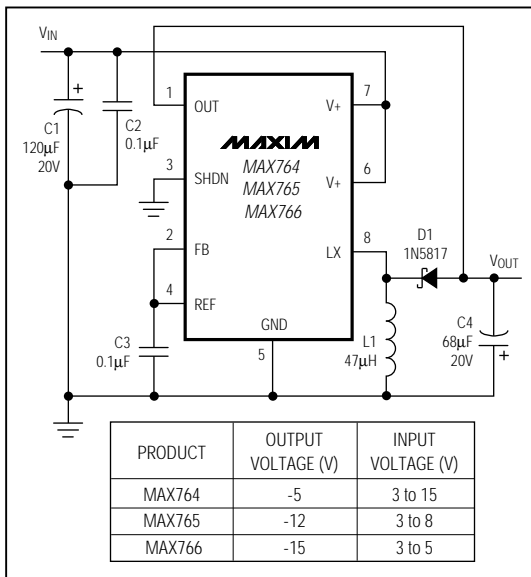

Figure 2. Fixed Output Voltage Operation
**Note 2:** Circuit of Figure 2.
CIRCUIT OF FIGURE 2, V+ = 5V, ILOAD = 100mA, VOUT = -5V
CIRCUIT OF FIGURE 2, V+ = 5V, VOUT = -5V
CIRCUIT OF FIGURE 2, VOUT = -5V, ILOAD = 100mA
CIRCUIT OF FIGURE 2, V+ = 5V, VOUT = -5V, ILOAD = 140mA
CIRCUIT OF FIGURE 2,  $V_+ = 5V$ ,  $V_{OUT} = -5V$ ,  $I_{LOAD} = 80mA$
CIRCUIT OF FIGURE 2,  $V_+ = 5V$ ,  $V_{OUT} = -5V$ ,  $I_{LOAD} = 240mA$
Figures 2 and 3 show the standard application circuits for these devices. In these configurations, the IC is powered from the total differential voltage between the input ( $V_+$ ) and output ( $V_{OUT}$ ). The principal benefit of this arrangement is that it applies the largest available signal to the gate of the internal P-channel power MOSFET. This increased gate drive lowers switch on-resistance and increases DC-DC converter efficiency.